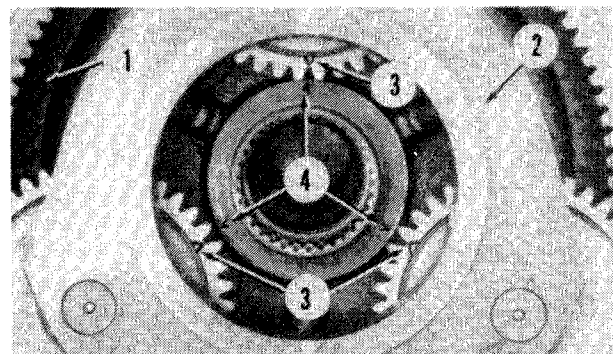

Fig. 153—Timing marks on pinion gears (3) must be aligned with timing marks on ring gear hub (4) when reinstalling input planetary.
To reinstall, reverse the removal procedure while noting the following instructions: Tighten lube manifold mounting cap screws to 35 ft.-lbs. (47 N·m). Install planetary shaft and ring gear. Install planetary carrier (2—Fig. 153) into planetary ring gear (1) so timing marks on planet pinions (3) are aligned with timing marks on gear hub (4). Apply a light coat of grease to thrust washer located between planetary, carrier and piston housing to hold washer in place. Make sure old plastic gasket material is removed from piston housing and mating surface of clutch housing, then apply a light coat of Loctite 277 plastic gasket to area around oil slots in the piston housing flange. Prevent the plastic gasket from running into the oil slots. Install piston housing within 15 minutes after applying gasket material and tighten mounting cap screws to 35 ft.-lbs. (47 N·m). Meshing of gear teeth may be made easier by installing high range shaft into planetary and turning shaft until teeth mesh. Install oil pump and tighten mounting cap screws to 20 ft.-lbs. (27 N·m). Wait 10 minutes, then retorque pump mounting screws.